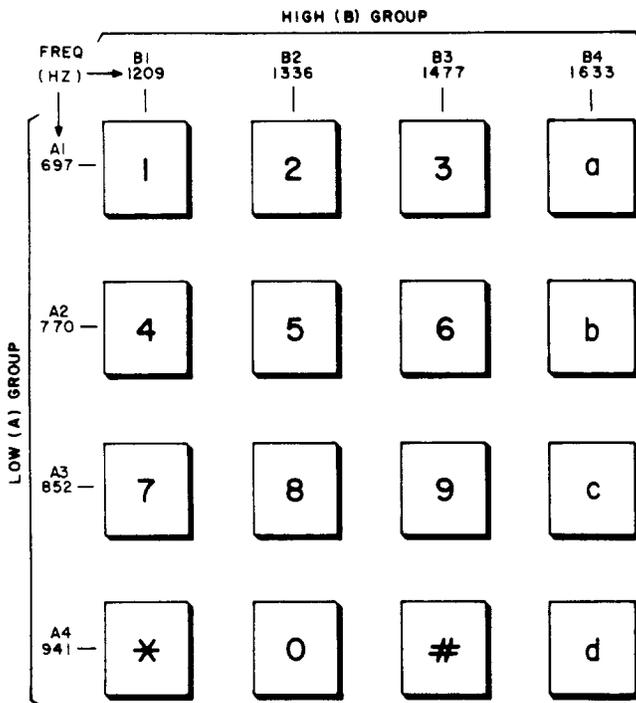

Fig. 7—TOUCH-TONE Button Designations and Frequency Assignments When Used With the 1A TTLS
**3.06** JU2 accepts the 2-out-of-8 TOUCH-TONE® transmission code. The transmission code consists of two groups of frequencies, a low group and a high group, each containing four frequencies. The frequencies are grouped and designated as shown in Fig. 7. The TOUCH-TONE signals are detected at the rate of ten characters per second. A character consists of one frequency from each group shown in Fig. 7. Therefore, the 2-out-of-8 code provides 16 different frequency pairs (characters). Data set 407A-type recognizes all of these characters.